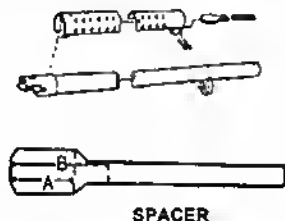

Fig. 17
- 5) Position the appropriate length plastic spacer or optional bushing style spacers between the forward clamp. Insert the two screws and start the two hex nuts on the screws using a 7/64" allen wrench and a 5/16" open end or box wrench. **DO NOT FULLY TIGHTEN THE TWO SCREWS YET (Fig. 17).**